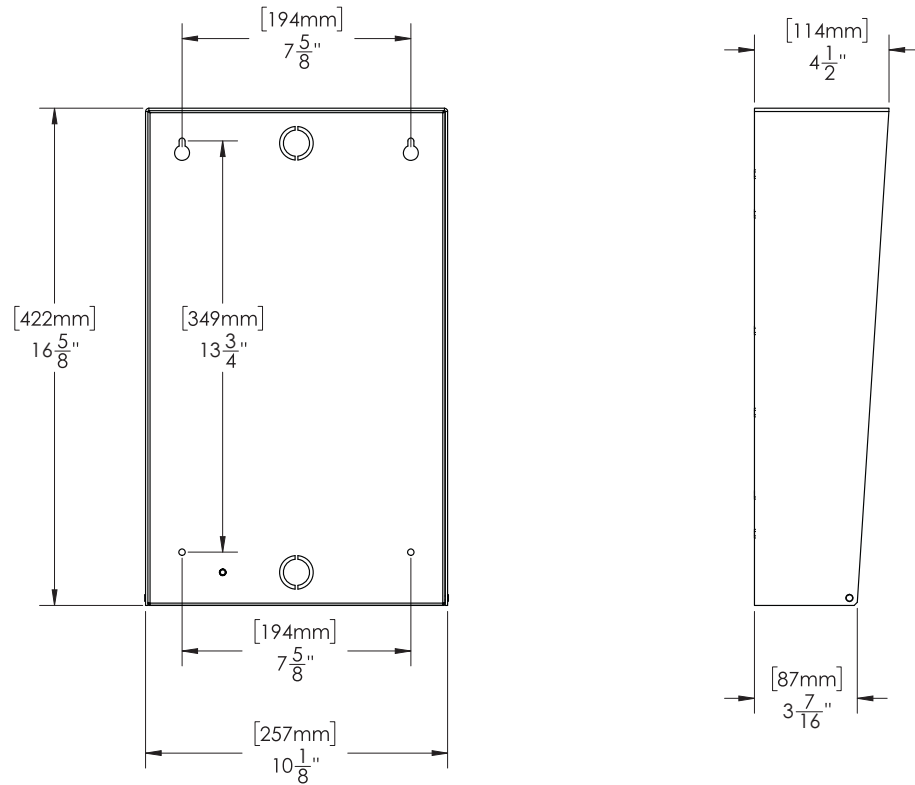

Figure 1. TX3-200-8U-C, TX3-1000-8U-C, TX3-2000-8U-C, TX3-120U-C Dimensions
2. Using the Universal enclosure as a template, mark the two mounting hole locations as indicated in figure 1. Ensure that at least one side is over a wall stud.